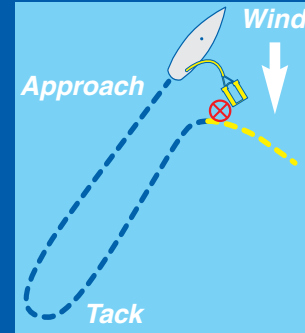

Fig. 13
2. After two boat lengths, tack boat and reverse course sail upwind of victim, controlling speed with sail trim. (Fig. 13–15)